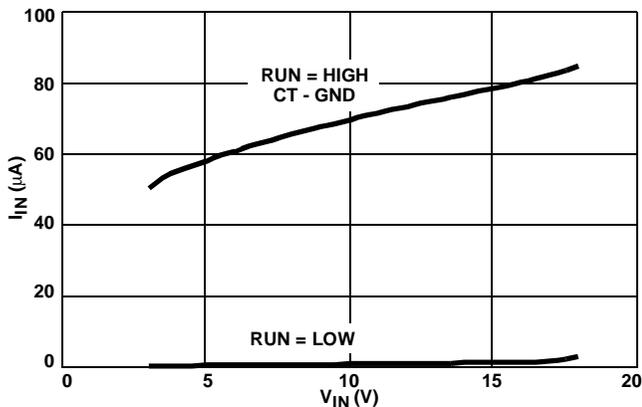

FIGURE 12. BIAS POWER CHARACTERISTICS
The converter efficiency and power dissipation at light load is mainly a function of the bias supplied to the HIP5020. Figure 12 shows the input current as a function of the input voltage for the two states of the RUN signal. I_{IN} is summation of both the current into the VIN and VIN_F pins. The curve for I_{IN} with the RUN signal High does not include the gate drive power.
2. Add the product of the voltage and current from the RUN = High curve in Figure 12.
4. Add the product of the voltage and current from the RUN = Low curve in Figure 12.